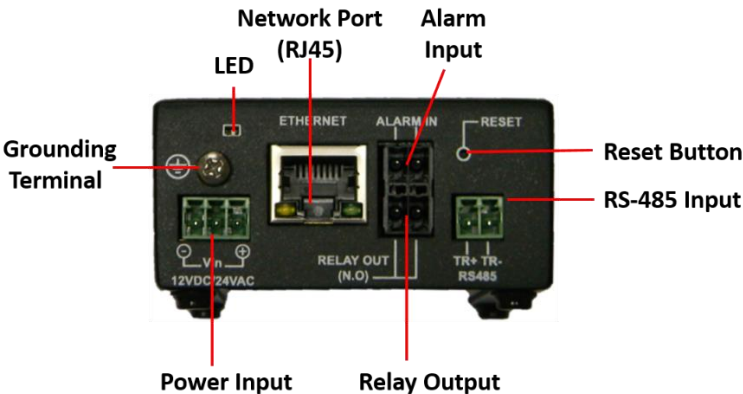

Figure 3: TRK-101-P Power Connection Panel
1. Connect a PC/laptop directly to the unit using a network cable connected to the Ethernet port located on the front panel of the unit. See Figure 3: TRK-101-P Power Connection Panel (page 9).